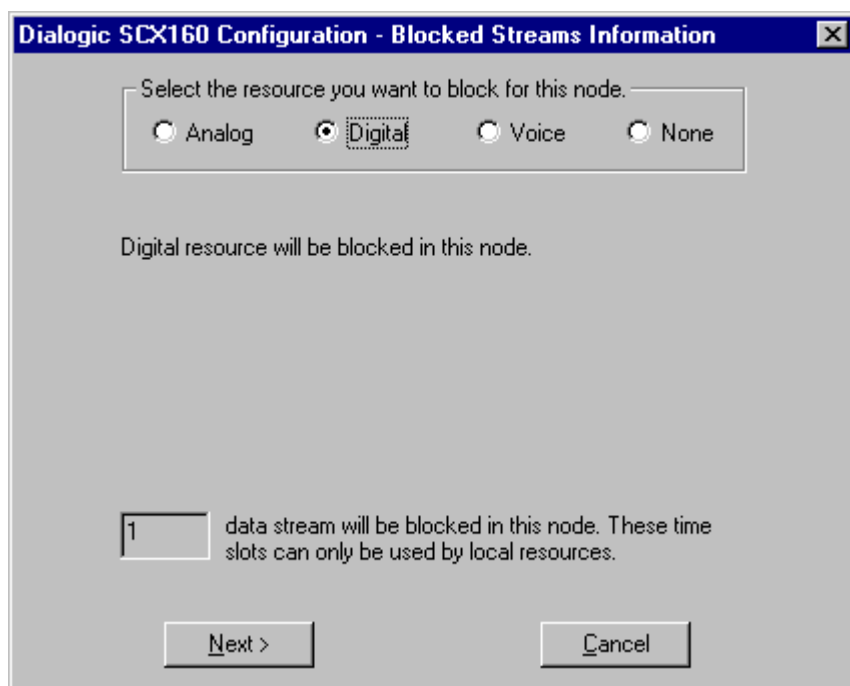

Figure 50. Blocked Streams Information Window
18. Select one resource to block at this node (analog, voice, digital, etc.) as shown in *Figure 50. Blocked Streams Information Window*. If you do not wish to block a resource on a node, select **None**.